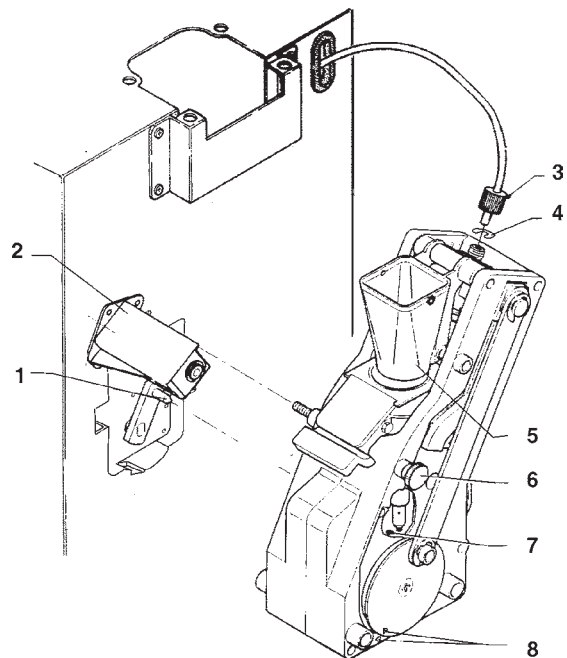

Fig. 24
- remove the boiler Teflon hose connection from the upper piston, paying attention not to lose the seal (see Fig. 24);
- Loosen screws A and B enough to release the coffee funnel (see fig. 24);